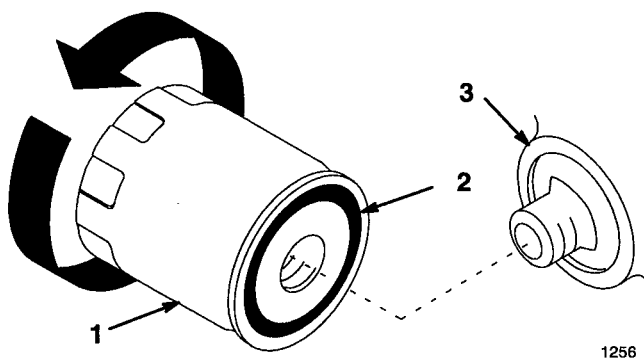

Figure 34
2. Remove the transaxle filter and wipe the filter adapter (Fig. 34) gasket surface.
3. Apply a thin coat of new oil to the rubber gasket on the replacement filter (Fig. 34).
4. Install the replacement transaxle filter to the filter adapter. Turn the filter clockwise until the rubber gasket contacts the filter adapter, then tighten the filter an additional 1/2 turn (Fig. 34).